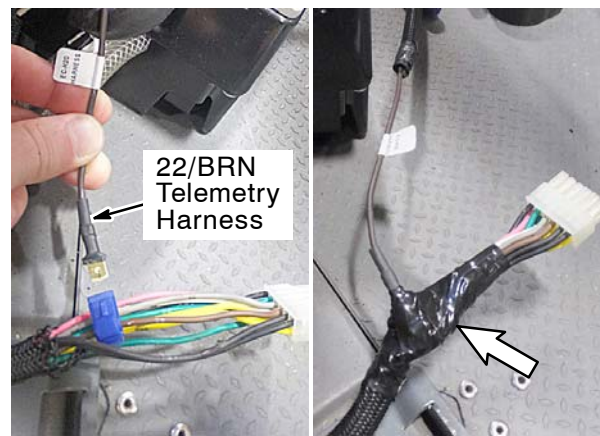

Fig. 18
- C. Connect 22/BRN wire labeled “ec-H2O Harness” from telemetry harness (16) to T-Tap connector (Fig. 18). Wrap harness with electrical tape.